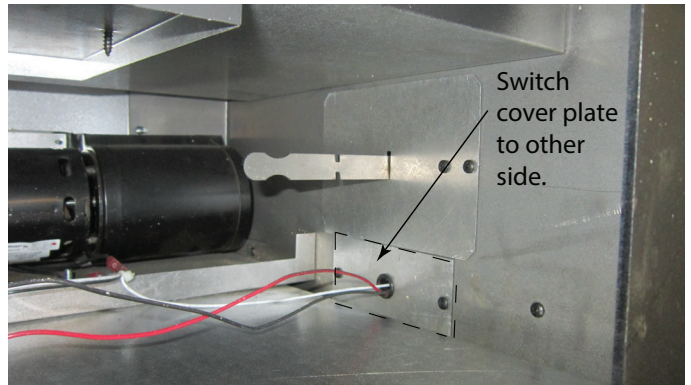

Figure 4.2 Bottom Access Area
**NOTE:** The power may enter from either side by switching the cover plates on the outer shell and switching the cover plates in the bottom access area to the opposite sides. See Figure 4.2.